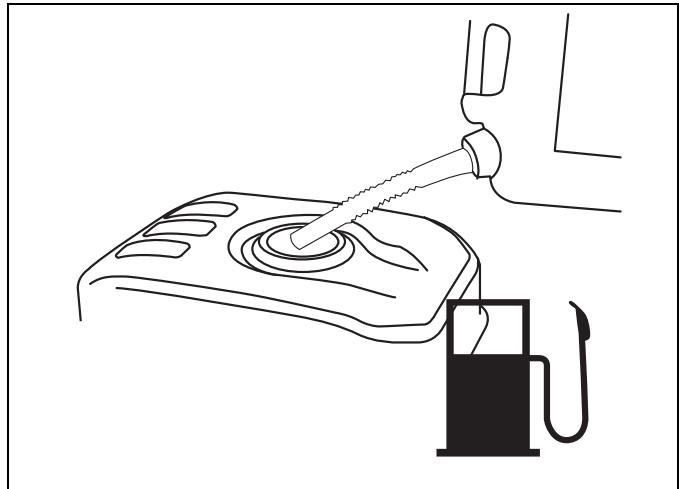

Figure 4-5. Adding Fuel
- Turn water pump OFF and let it cool at least two (2) minutes before removing fuel cap. Loosen cap slowly to relieve pressure in tank.
- 2. Slowly add regular unleaded fuel to fuel tank. Be careful not to overfill. Fill to red indicator ring on the fuel filter, this will allow for fuel expansion (Figure 4-5).